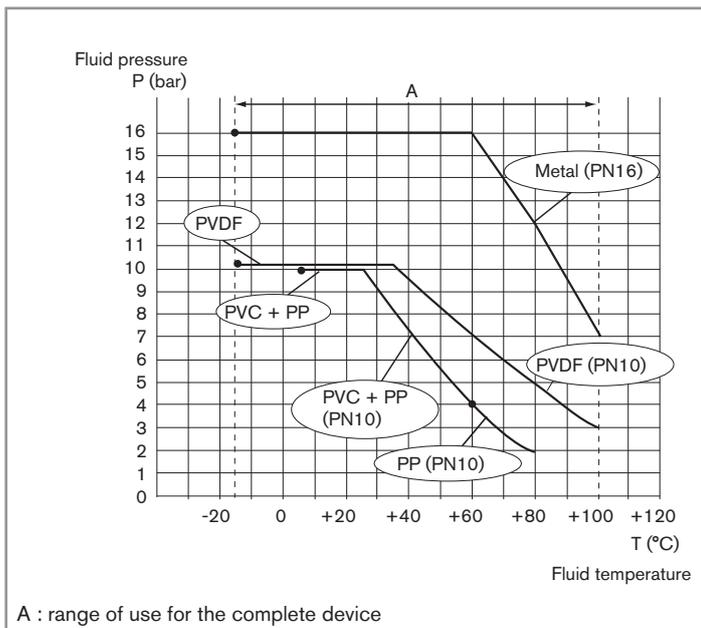

Fig. 1: Fluid pressure / temperature dependency curves
Fluid pressure	depends on the fitting material; see <a href="#">Fig. 1</a> in chap. <a href="#">7.1</a>
- ▶ Take the fluid pressure / temperature dependency into account according to the nature of the material of the fitting used (see Fig. 1).